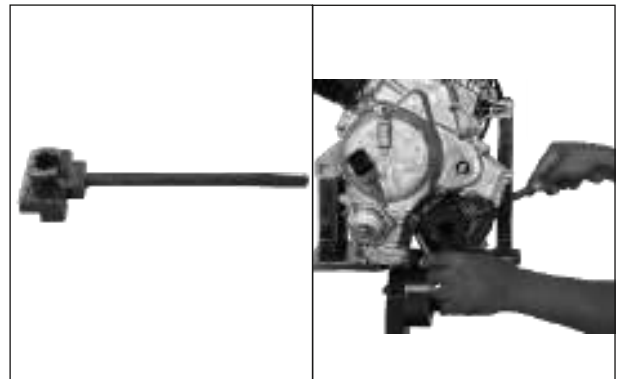

Fig. 1.9
- Hold the dog driven and rotate it against the spring tension and lock it at the required point. (Fig. 1.9)